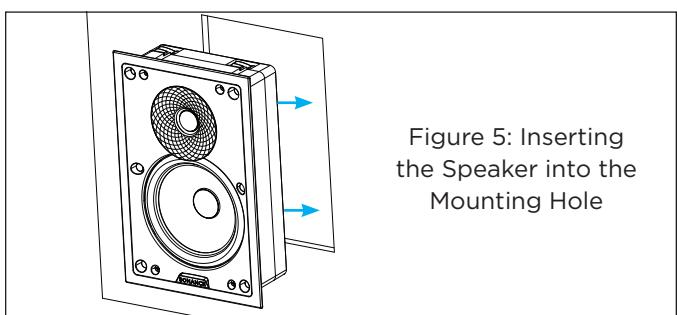

Figure 5: Inserting the Speaker into the Mounting Hole
6. Insert the speaker into the mounting hole and tighten the four screws on the front of the speaker baffle (see Figure 5).